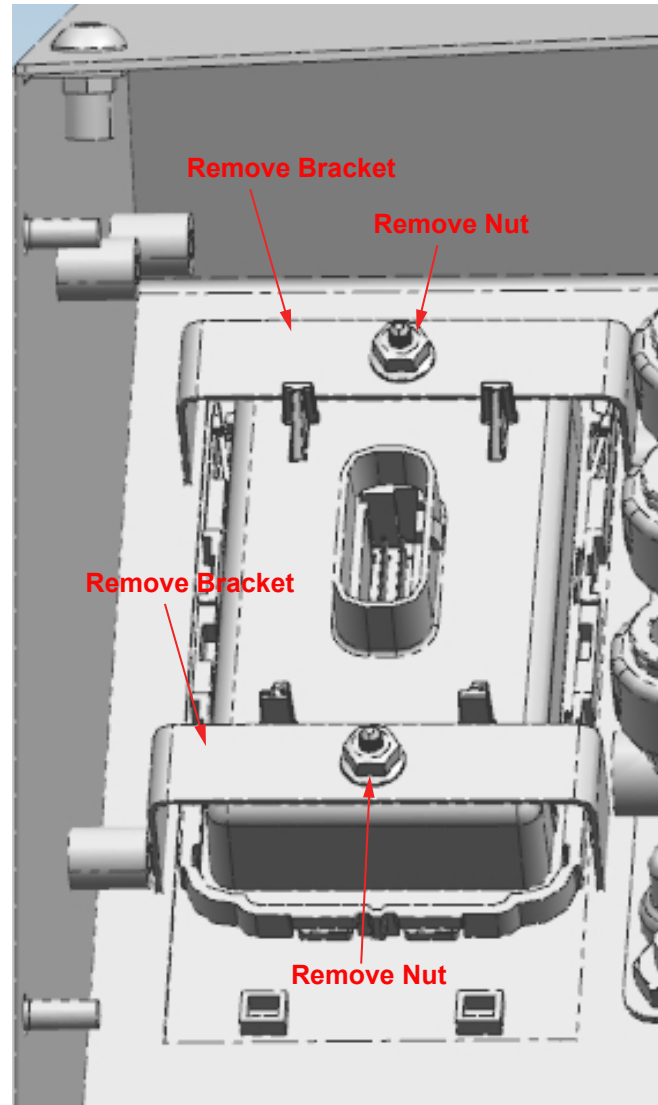

Figure 4
5. Remove (2) nuts and set aside for reassembly. (see Figure 4).
6. Remove the brackets holding the shift pad onto cover and discard (see Figure 4).